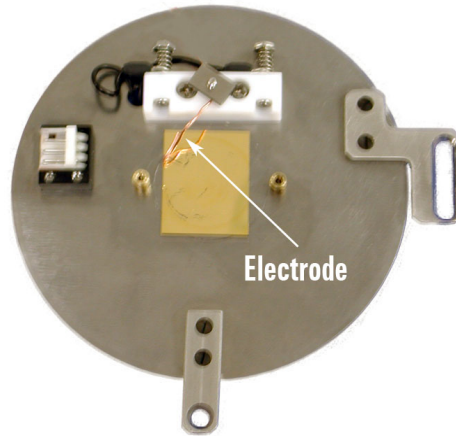

Figure 98 Sample on plate with electrode attached
electrode under it (Figure 98). Connect the electrode to the sample, ensuring good contact.
- 3 Attach an electrode from the sample plate to the sample. A length of copper wire works well as the electrode. Lift the spring-loaded electrode clip on the sample plate and insert the electrode under it (Figure 98 on page 138). Connect the electrode to the sample. Check